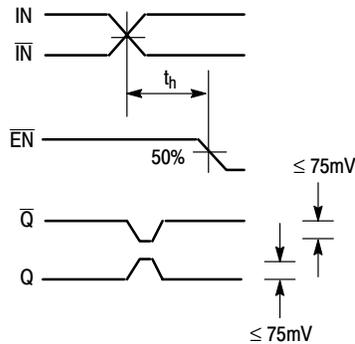

Figure 4. Hold Time
20. The hold time is the minimum time that \overline{EN} must remain asserted after a negative going IN or a positive going \overline{IN} to prevent an output response greater than $\pm 75\text{ mV}$ to that IN/ \overline{IN} transition (see Figure 4).